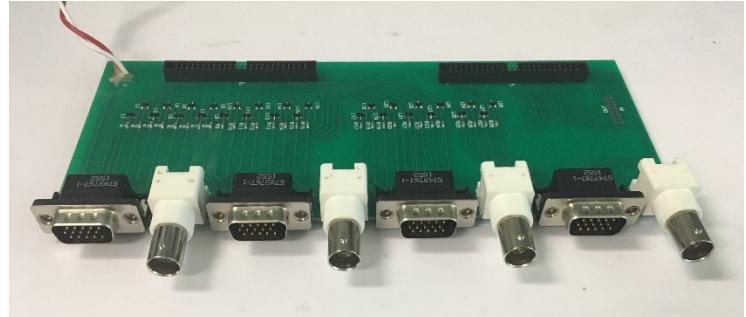

Figure 83 Completed RIO breakout board
- See Figure 83 for the completed breakout board.